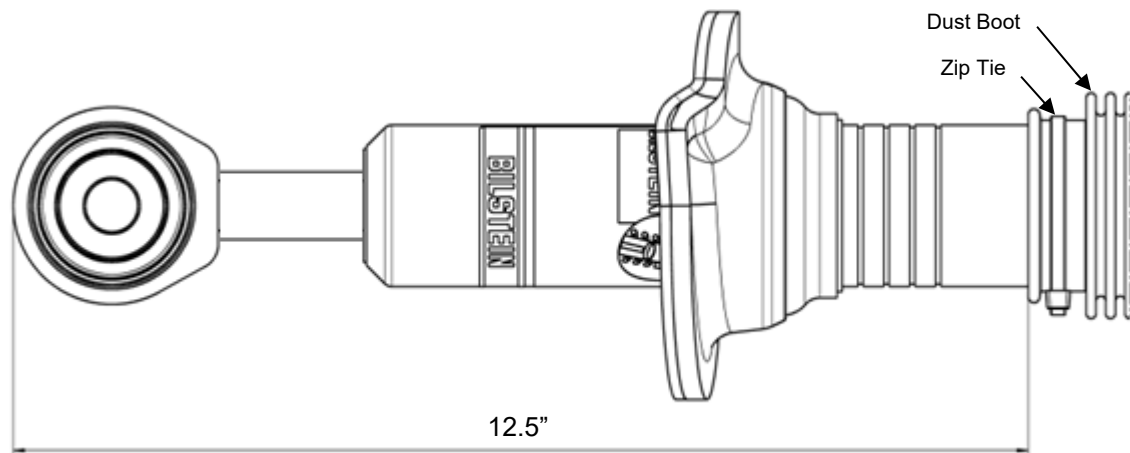

Figure 4 (B8 5100 is depicted)
- H. Position the dust boot such that the bottom edge of the boot is approximately 12.5 inches from the bottom of the shock as shown in Figure 4. Secure the boot with the provided zip tie. Trim the excess zip tie length after installation. (**B8 5100 only**).